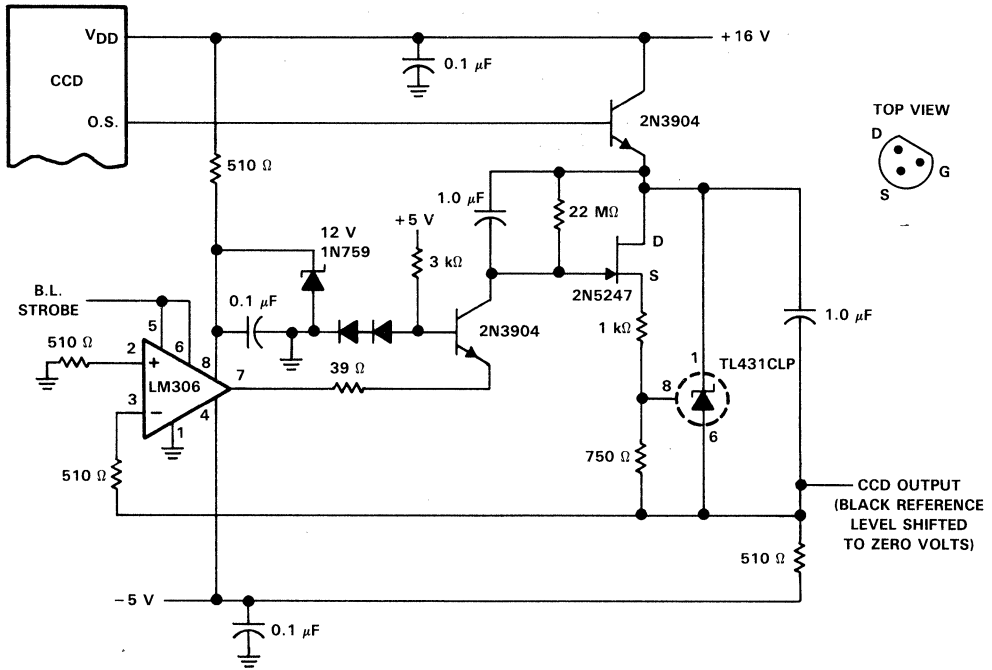

Figure 7. CCD Output Level Shifting Circuit (Black Level Clamp to 0 V)
In the actual circuit (Figure 7), the black level is clamped to zero volts within the limits of the offset voltage
1. The level shift and black-level clamp circuit (see Figure 7)